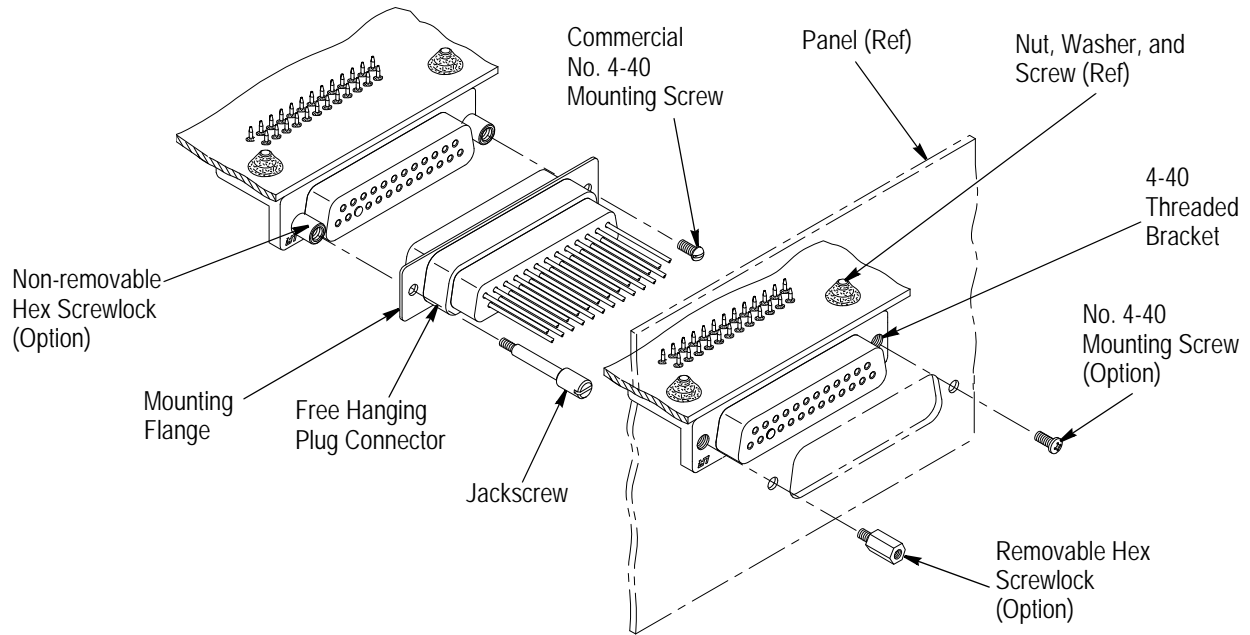

Figure 9
3.11. Ancillary Items (See Figure 9)
Figure 9 shows a combination of different types of hardware. In an actual application, identical hardware should be used on both mounting flanges.